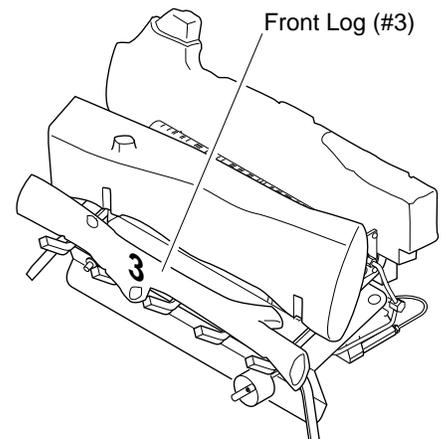

Figure 19 - Installing Front Log
3. Place front log (#3) into place in front of bottom mid log (#2) (see Figure 19). Make sure notches on bottom rest on grate prongs.